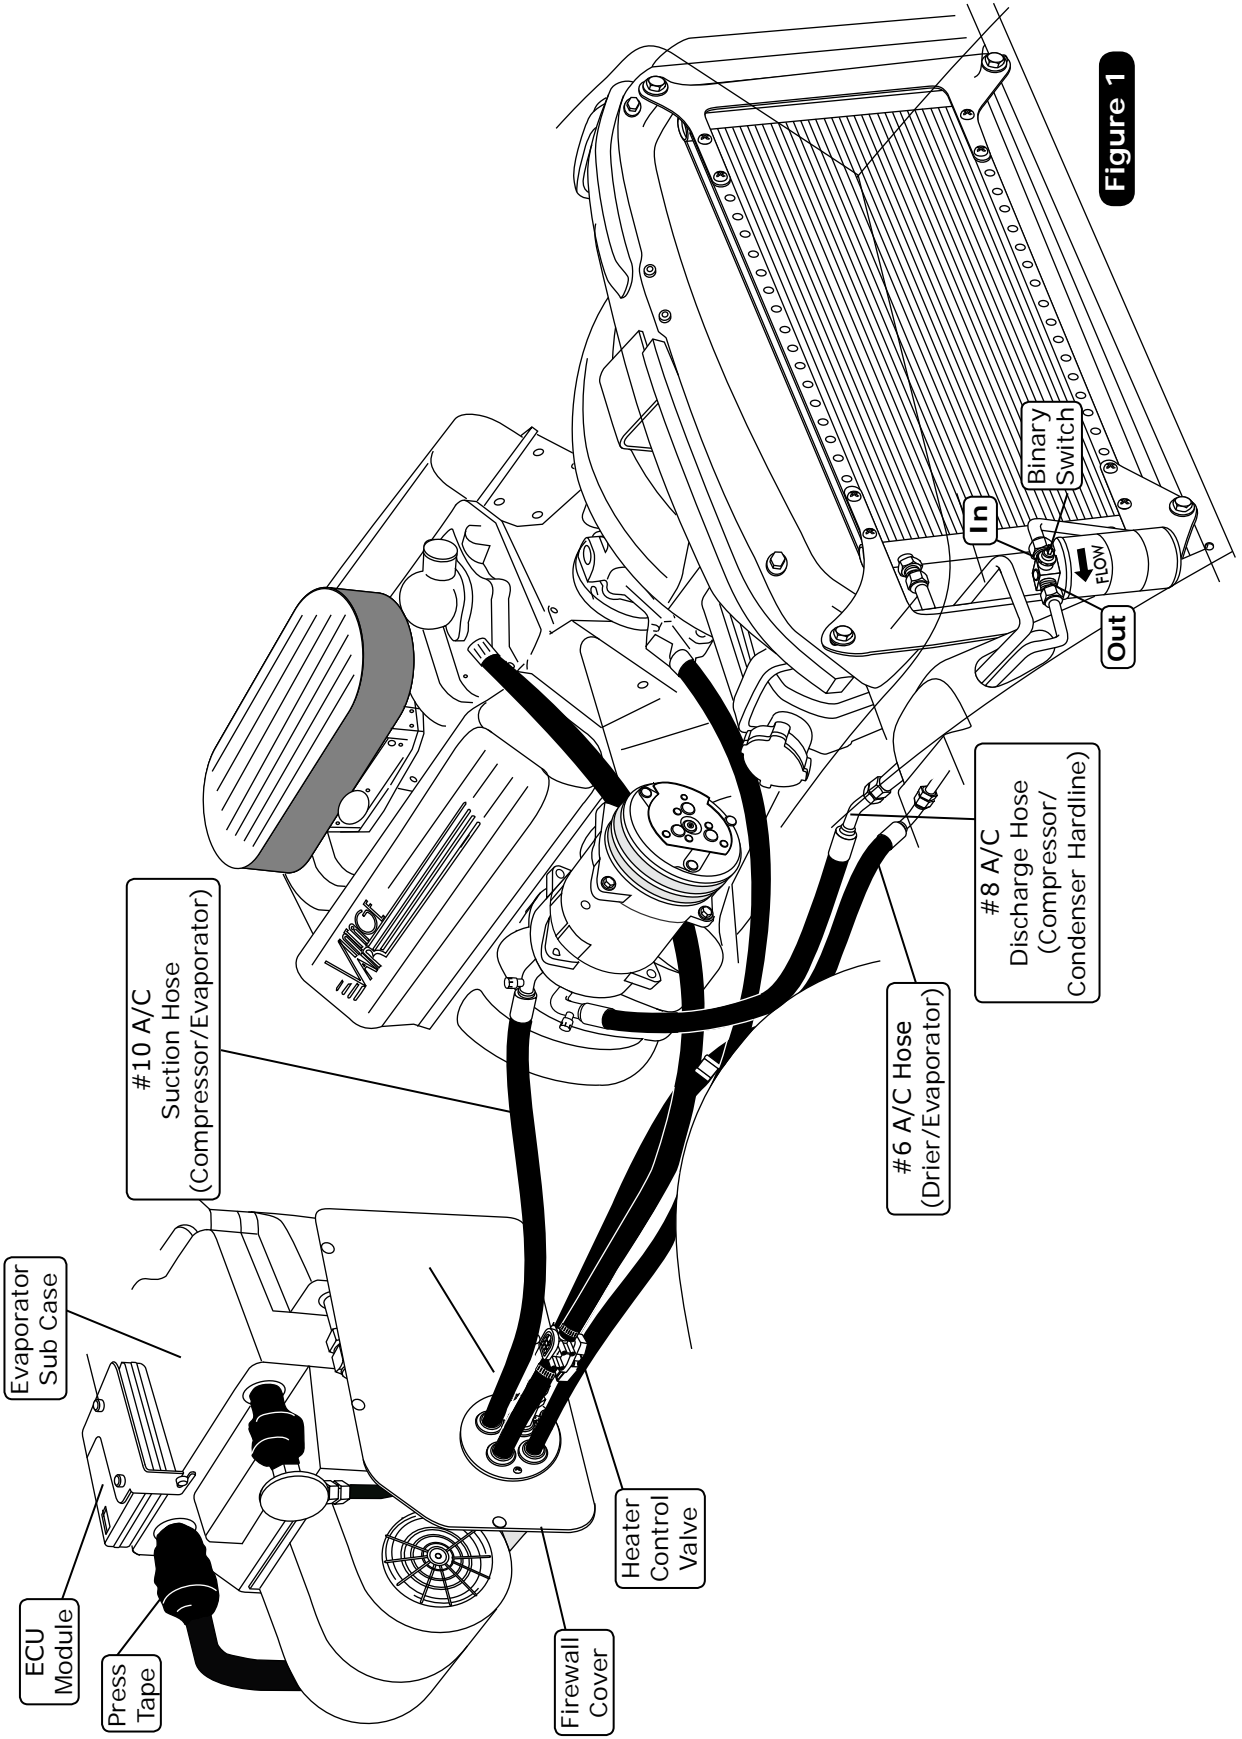

Figure 1
2. Install the duct hoses as shown in Figure 1, Page 28.
3. Route (2) 11" tie wraps through the steering column mounting bracket as shown in Photo 2, below.